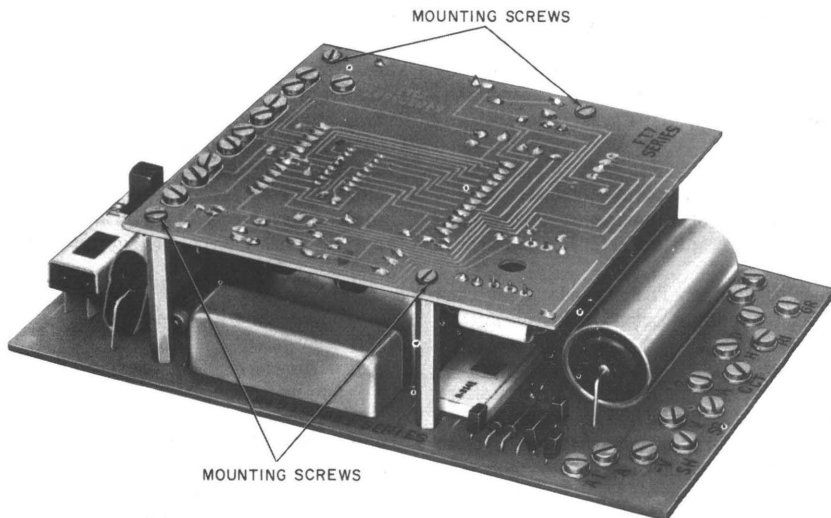

Fig. 2—1001F Data Coupler With Cover Removed
2.02 Circuitry for the coupler is mounted on two printed CPs (Fig. 2). Ten screw terminals at the lower end of the bottom CP provide the interface for connection to customer equipment. Interface control leads use EIA RS-232-C voltage levels. See Table A for lead designations. The cord required for connecting the customer modem to the interface must be supplied by the customer.